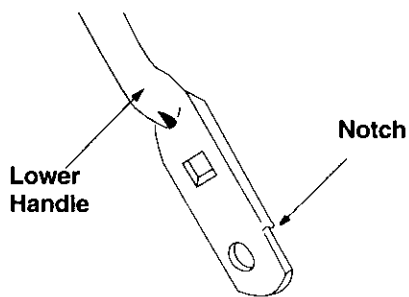

Figure 20
- Turn the lower handle around so the notch on the bottom of the lower handle is facing forward as shown in Figure 20. Reassemble, placing the bottom holes in the handle over the weld pins in the handle mounting bracket.